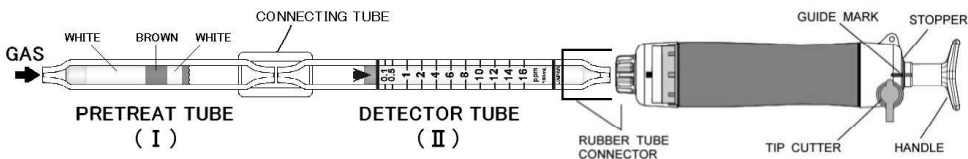

Fig.1
- ① Break both ends of the detector tube (II) and pretreat tube (I), and connect each end of the detector tube (II) and pretreat tube (I) with connecting tube as shown in Fig.1.
- ② Insert the detector tube into the aspirating pump securely as shown in Fig.1. (Arrow mark shall point to the pump.)
- ③ Align the guide marks on the shaft and stopper of the aspirating pump.
- ④ Pull the pump handle at a full stroke until it locks and wait for 1.5 minutes or until the completion of sampling is confirmed with the flow indicator of the pump (See descriptions about the flow indicator in the instruction manual of the pump).
- ⑤ On completion of sampling, read the scale at the maximum point of the stained layer.
- ⑥ When concentrations are below the scale range, 2 pump strokes can be used to determine these lower concentrations. In case of 2 pump strokes, push back the handle without removing the detector tube from the rubber tube connector so that air in the pump will be discharged perfectly. Then repeat the step ③ ~ ⑤ once more.
- ⑦ In case of 2 pump strokes, actual concentration is half of the reading value.